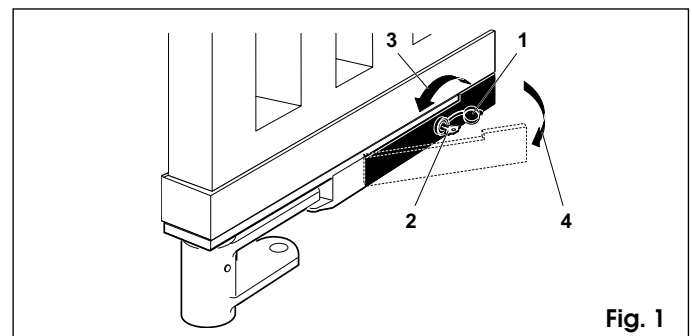

Fig. 1
At regular intervals, check the structure of the gate and make sure that the hinges are in perfect working order. Periodically lubricate the pivot and ball in the support bracket, through the lubricating bore shown in fig. 1-ref. 13. Make sure that the pivots of the lever systems, the pinion and the engagement of the lock on the locking bracket (fig. 1 - ref. 5) are always well lubricated, and check the efficiency of the manual operation.
- open the lid of the lock (fig. 1-ref. 1);
- insert the release key in the lock (fig. 1-ref. 2);
- turn the key in the direction of the post, as far as it will go (fig. 1-ref. 3);
- pull the lever out (fig. 1-ref. 4);